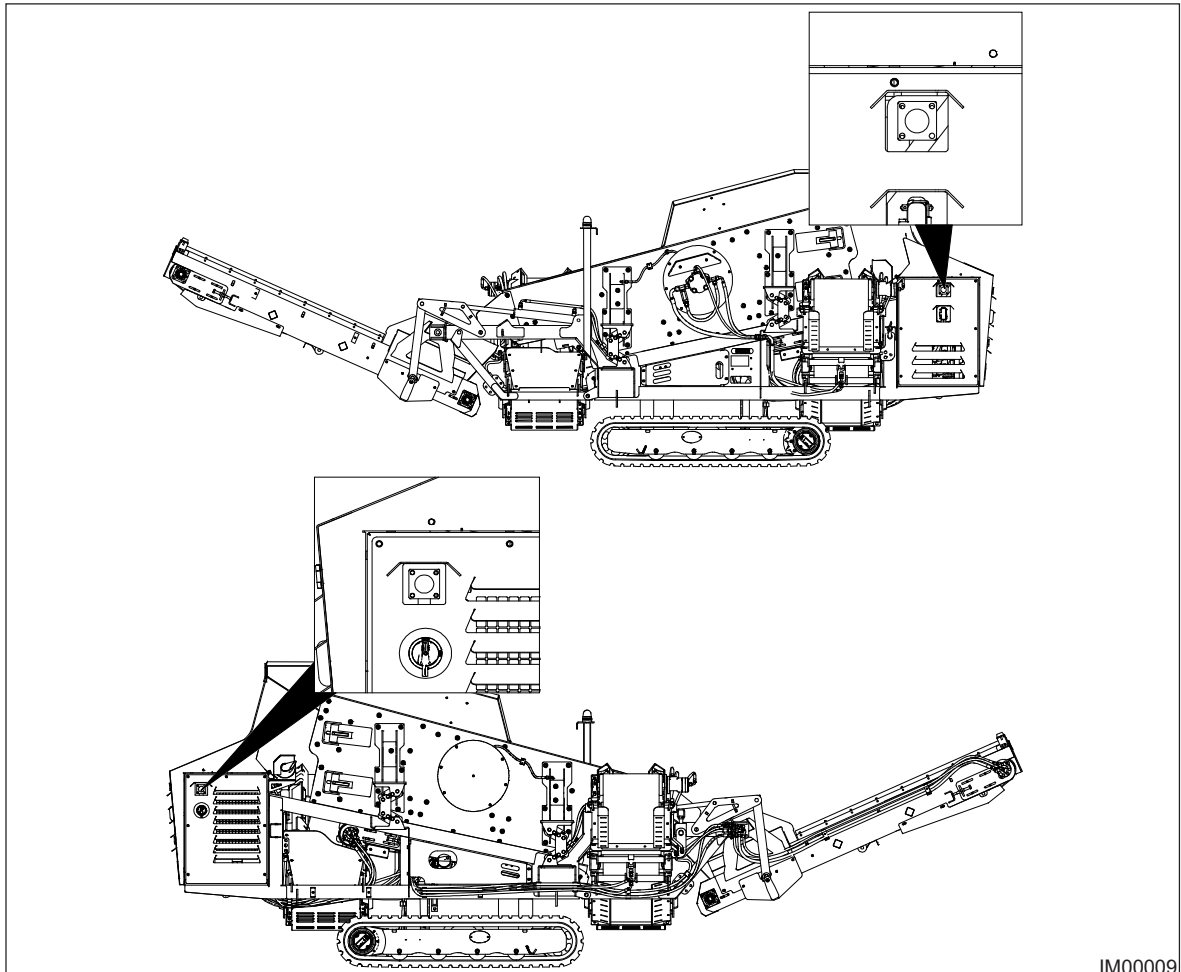

Fig: 9.13 - Emergency Stop Locations
2. Engage (push in) the nearest emergency stop button (Fig: 9.13).